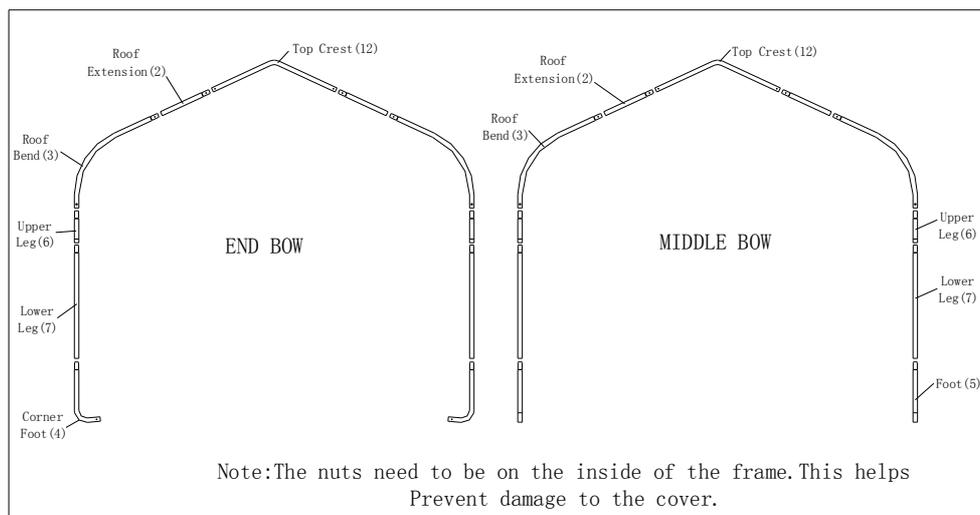

Figure 1
Assemble the End Bows and the Middle Bows as shown in **Figure 1**. Parts are attached using a 3” Bolt (14) and Nut (16) at each junction - see **End** and **Middle Bows**, below.
Starting with two Corner Feet (4) (left side and right side) for each end, work your way up bolting connections together. Connect the Lower and Upper Legs (7,6), Roof Bend (3), and Roof Extension (2). Complete the End Bows (qty. 2) by connecting the left and right sides with (12). **See Figure 1.**
The middle bows have the same procedure as above, except the lowest pieces are the Feet (5). **See Figure 1.**